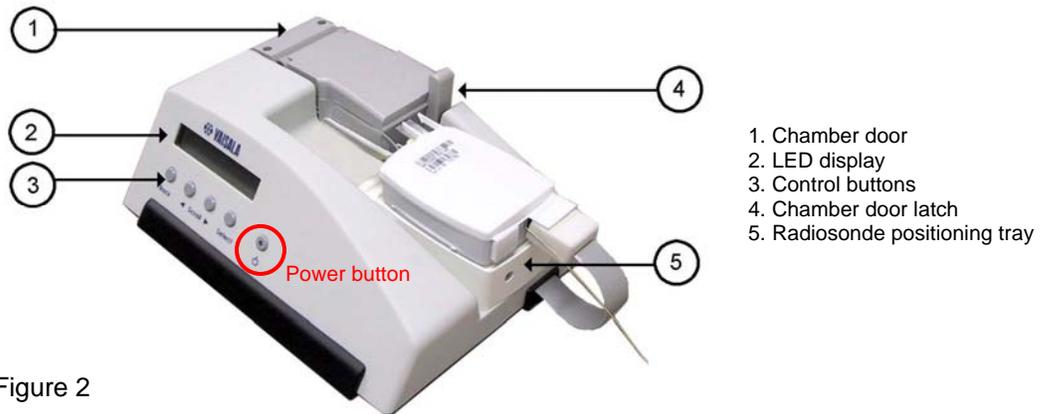

Figure 2
18. Open the GC25 Ground Check Set chamber door by releasing the latch (see Figure 2).
19. Carefully place the RS92 with the “Radiosonde” label up as shown in Figure 2, making sure it fits in the indentation on the positioning tray. Close the chamber door immediately.
21. Turn on the GC25 by pushing the power button (far right on the front panel with a light, see Figure 2). The display will briefly read the following: “Identifying...,” “RECOND. U-SENSOR,” and “YES.”
- b) Enter the temperature shown on the GC25 unit LED display window (see Figure 2) in the blank temperature box in the “Ground check” window.